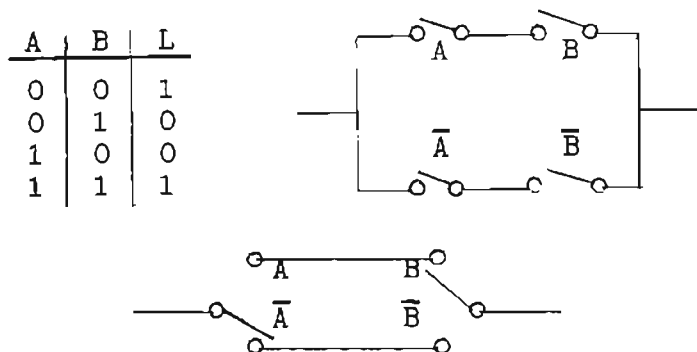

Figure 9: Truth Table and circuit diagram for the coin matcher.
The first step in the design is to construct a truth table (sometimes called a closure table) for the system. We require that when A and B are both on the light is lit, when they are both off the light is lit, but when they have different settings (one on, the other off) the light is off. The truth table we would like to implement is clearly the one shown in Figure 9. This is constructed by first listing the four possible combinations for two switch settings, that is 00, 01, 10, and 11. For each of these switch settings the desired value of L is listed, completing the truth table. It is seen that when the switches "match" then L = 1, otherwise it is 0.
For the first step above and the truth table of Figure 9, we obtain the products $\bar{A} \cdot \bar{B}$ and $A \cdot B$ from the first row and the last row, respectively. Step two then gives the equation,
which is the equation for the circuit. It is important for you to verify, by substituting in the various values of A and B given in Figure 9, that this equation does not in fact give the desired values of L.
The final step in the design is to construct a circuit which is equivalent to the equation (4). An examination of this equation indicates that we need two parallel branches, one containing \bar{A} in the series with \bar{B} , the other containing A series with B. This circuit is shown in Figure 9. The battery and the light have been omitted for simplicity. Clearly the circuit could be constructed with two SPDT switches.